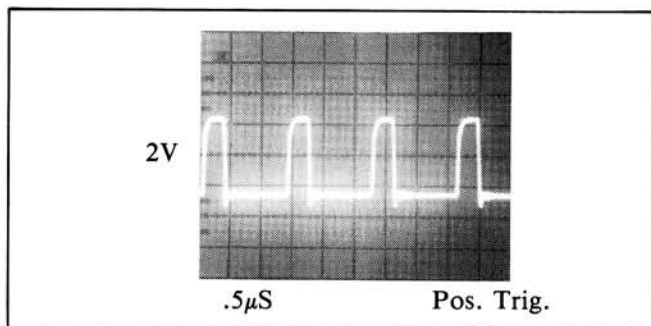

Figure 7-D-5. U462 ALE Signal
- c. Make sure the ALE line at TP403 (U462 pin 11) is good, as shown in Figure 7-D-5. If the signal is missing or incorrect, make sure the CPU's clock (at pin 2 and 3 of U462) is at 10.98MHz. Try replacing crystal Y460, if the signal is missing. If still missing, replace U462.